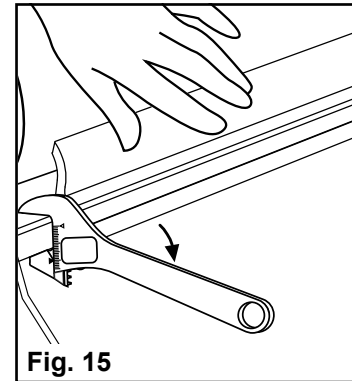

Fig. 15
3. Place hand on blade, pressing blade against pulley (Fig. 15).
4. Rotate bar back while holding blade against pulley (Fig. 15).